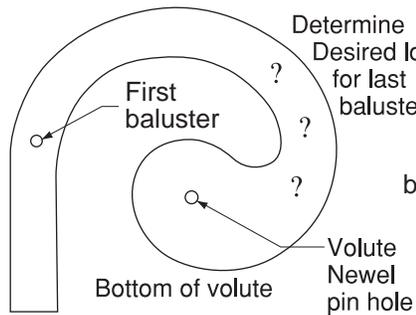

Fig. 5-12 Custom layout
5. You must determine how far around the bottom of the volute the last baluster will be located. This is for aesthetical purposes only. Please note Fig. 5-12 here.